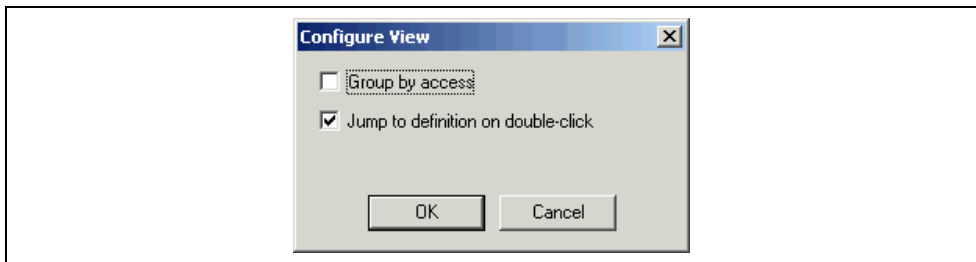

Figure 13.6 C++ Configure view dialog
3. The dialog in figure 13.6 is displayed.